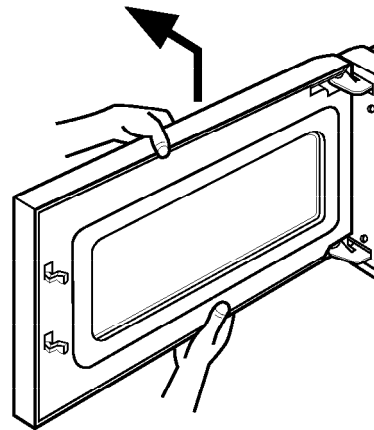

Figure 24
**G. REMOVING DOOR (Figure 24)**
- (1) Remove the vent grille by removing two screws securing it to the front bracket.
- (2) Lift up and push the door.